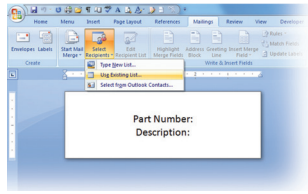
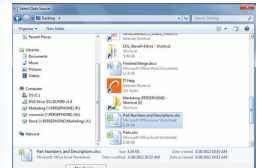
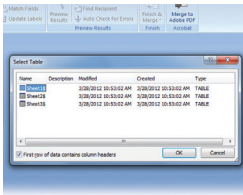

FIGURE 8 With the Mailings tab selected, click on “Select Recipients,” then “Use Existing List” from the drop-down menu that appears.
FIGURE 9 Navigate the Select Data Source window to access your Excel file.
FIGURE 10 Select the Excel sheet number where your data is located from the Select Table dialog box.
- F. Select the **Mailings** tab from the Word menu bar, then click on **Select Recipients** and **Use Existing List** (Fig. 8) from the drop-down menu. A **Select Data Source** window appears (Fig.9).
- G. Locate and click the **Excel spreadsheet** you just saved using the **Select Data Source** window (Fig. 9). A **Select Table** dialog box appears (Fig. 10).